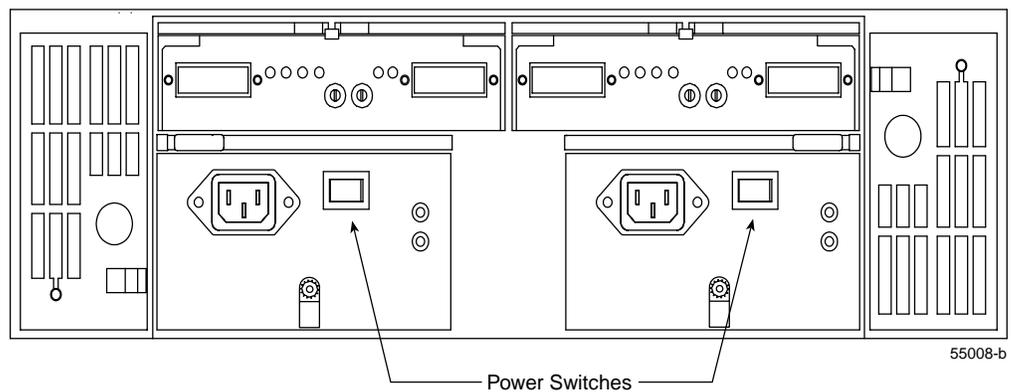

Figure 8-16 The Drive Enclosure Power Switches
9. Turn on both power switches on the rear of each drive enclosure (Figure 8-16).